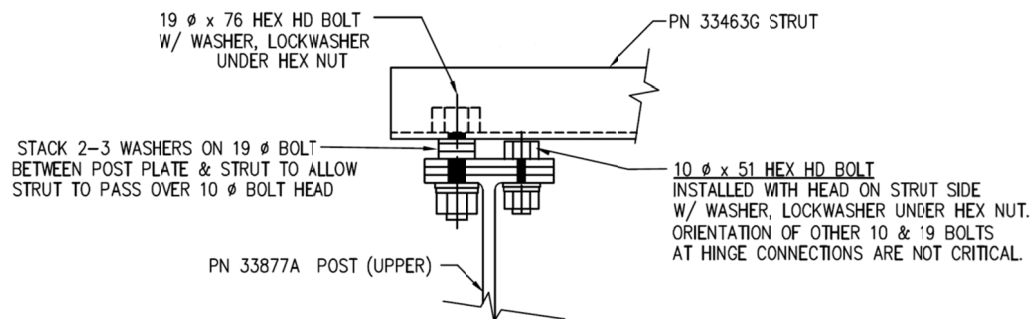

Figure 4
2. Insert a 10 mm diameter x 51 mm hex head bolt (PN 6321G) through the 11 mm holes of the post plates (ears) on the Top and Bottom Posts. The bolts should be positioned so the nuts are on the inside of the post plates (ears) (see Figures 4 and 5).
3. Place a 10 mm flat washer (PN 4254G), and 10 mm lock washer (PN 4258G) under the 10 mm hex nut (PN 6405G) (see Figures 4 and 5).
4. Insert a 19 mm diameter x 64 mm hex head bolt (PN 3717G) through the 21 mm hole (on the traffic side) of the post plates (ears) on the Top and Bottom Posts. The bolts should be positioned so the nuts are on the inside of the post plates (ears) (see Figures 4 and 5).
5. Place a 19 mm flat washer (PN 3701G), and 19 mm lock washer (PN 4699G) under the 19 mm hex nut (PN 3704G) (see Figures 4 and 5).
2. At Post No. 1, insert a 19 mm diameter x 64 mm hex head bolt (PN 3717G) through the Angle Strut (PN 33463G) and into the 21 mm hole (on the field side) of the post plates (ears) on the Top and Bottom Posts. The bolts should be positioned so the nuts are on the inside of the post plates (ears) (see Figures 4 and 5).
3. Place a 19 mm flat washer (PN 3701G), and 19 mm lock washer (PN 4699G) between the 19 mm hex nut (PN 3704G) and the post plates (ears) on the Top and Bottom Posts (see Figures 4 and 5)
5. Place three (3) 19 mm flat washers (PN 3701G) between the Angle Strut (PN 33463G) and the 21 mm hole (on the field side) of the post plates (ears) on the Top and Bottom Posts at Post No. 2 (see Figures 4 and 5).
6. Next insert the 19 mm diameter x 76 mm hex head bolt (PN 3718G) through the 21 mm hole (on the field side) of the post plates (ears) on the Top and Bottom Posts. The bolts should be positioned so the nuts are on the inside of the post plates (ears) (see Figures 4 and 5).
7. Place a 19 mm flat washer (PN 3701G) and 19 mm lock washer (PN 4699G) between the 19 mm hex nut (PN 3704G) and the post plates (ears) on the Top and Bottom Posts (see Figures 4 and 5)